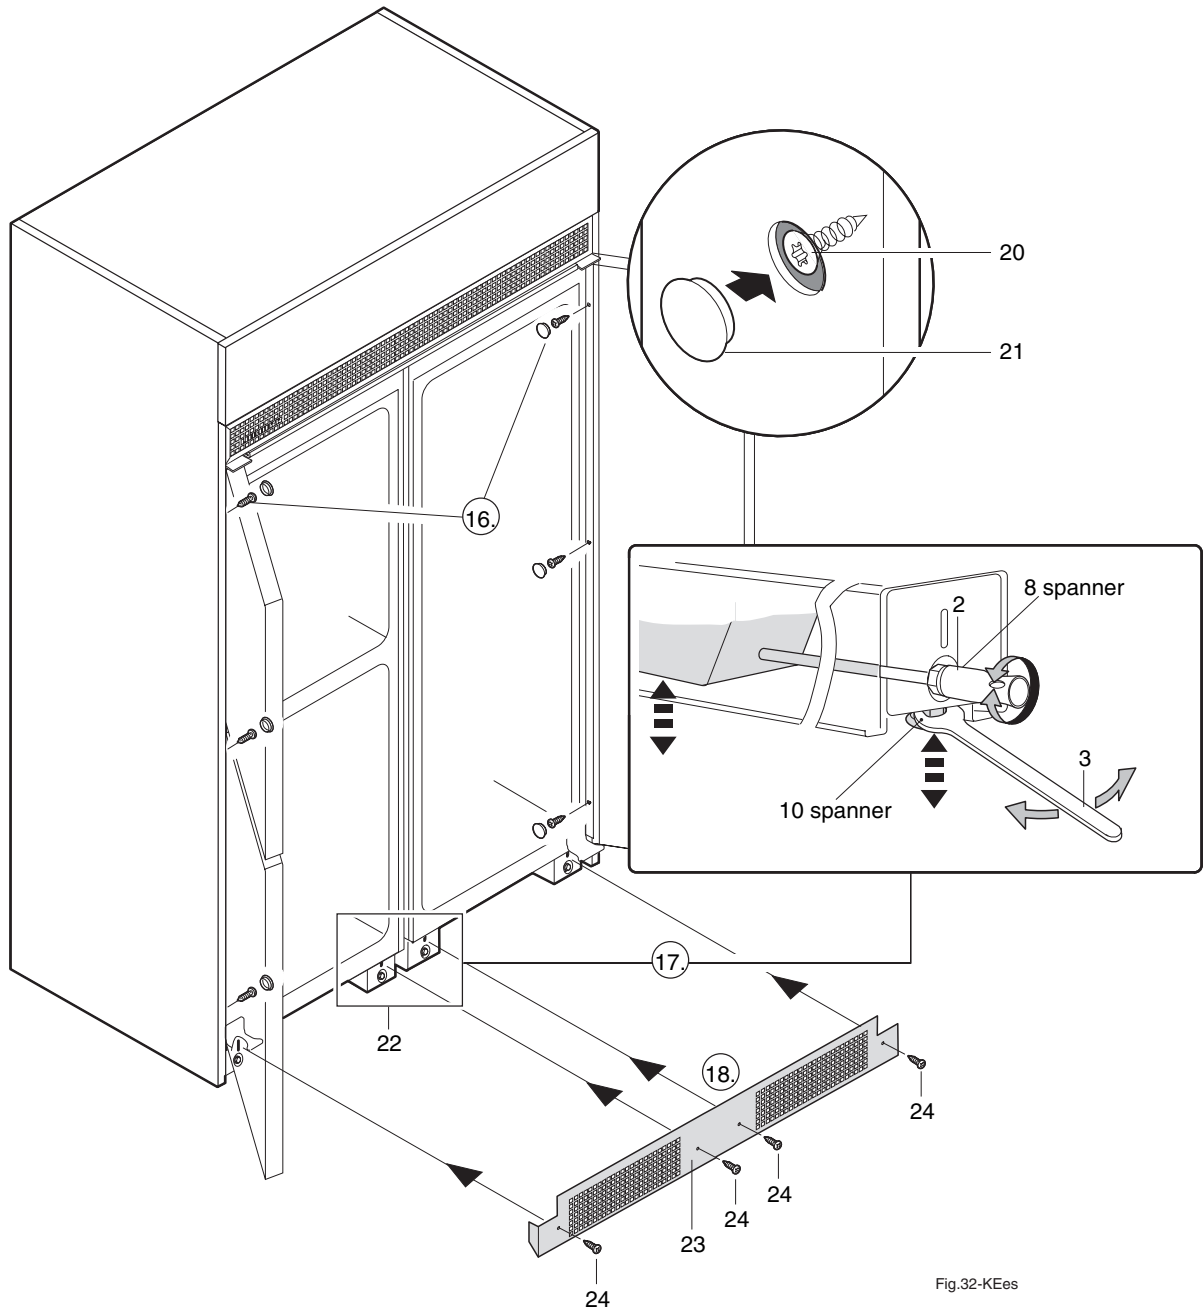

Figure 24
16. **Figure 24:** Attach the aligned combination to the surrounding kitchen cabinet. Secure it through the side frames using the screws (20) provided.
- Cover the screws with cover caps (21).
17. Now adjust the center leveling wheels (22) so that they **make slight contact with the floor**.
18. Fit the lower ventilation grille (23): Secure the ventilation grille so that it touches the floor and adjust it using the slots.